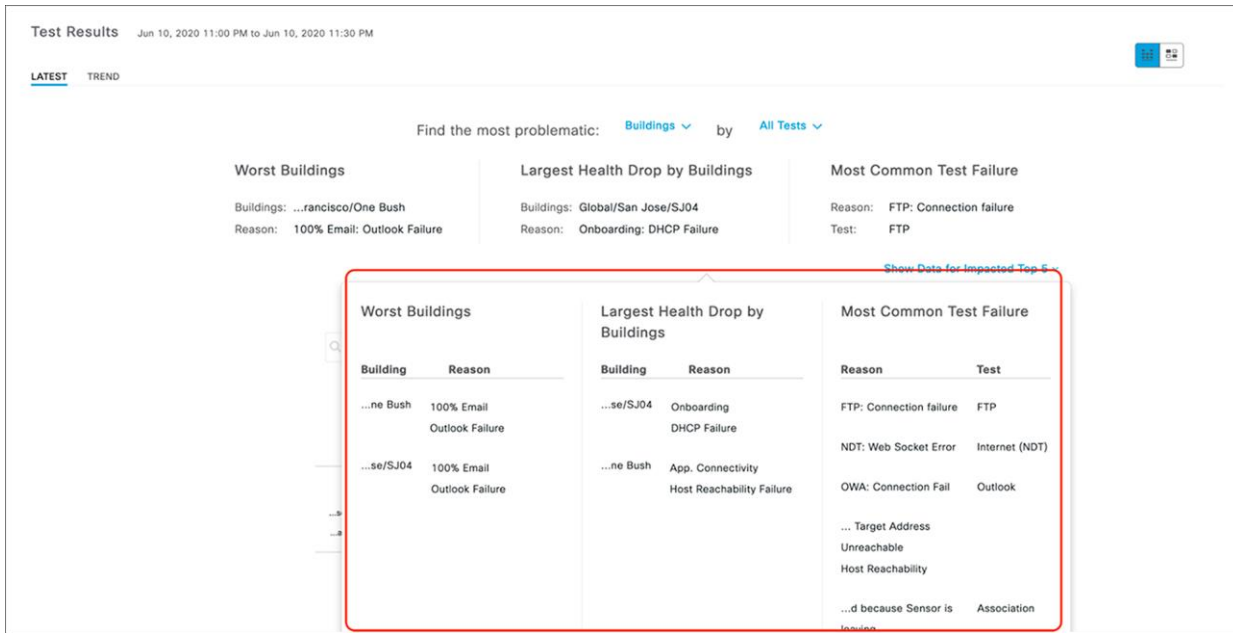

Figure 99.
17. Click Show Data for Impacted Top 5 to view the worst buildings, largest health drop by buildings, and most common test failure (**Figure 99**).